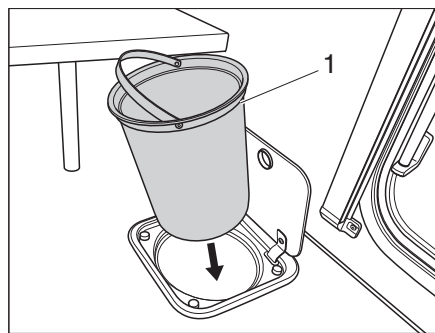

Fig. 151 Waste bin in kitchen
- Remove the waste bin (Fig. 151,1) using the handle and empty in accordance with the applicable regulations.